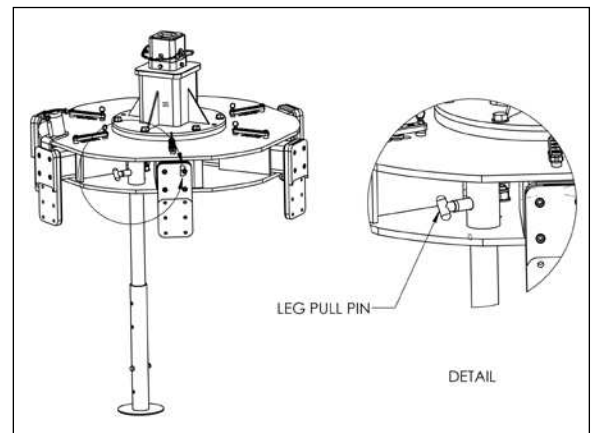

Figure 10. Leg Pull Pin For Leg
7. Pull the Leg Pull Pin [P-MM0023] outward and slide the leg into the sleeve until the Leg Pull Pin is able to snap into the leg hole. See Figure 10.